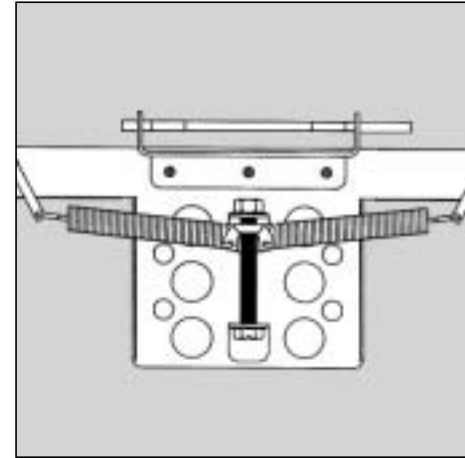

Figure 10. Positioned for quiet launch
- 2) Turning counter-clockwise, move the springs up for a low launch (Figure 10) : the very top being lowest.